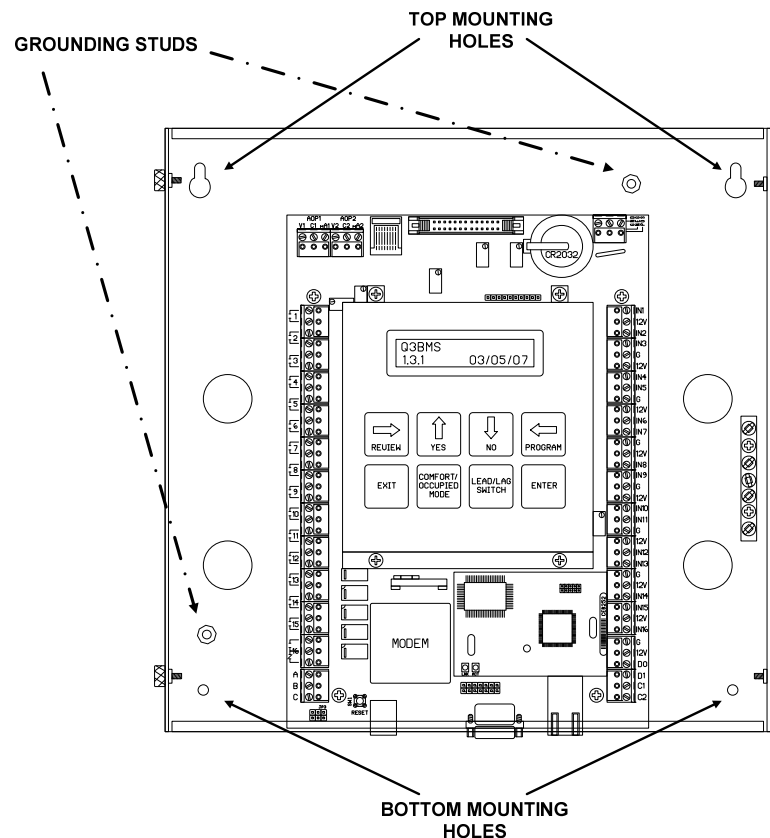

Figure 1: Location of Mounting Holes and Grounding Studs
Step 2: Remove cover from the Q3 and slip the Q3 top mounting holes (Figure 1) onto the top mounting hardware and slide down until it stops. Install the bottom mounting hardware in the bottom mounting holes.
Step 1: Using terminal lug, run 12 AWG (or larger) ground wire from Q3 ground stud (Figure 1) to building ground and connect using appropriate hardware. Select most convenient ground stub, all grounding studs and ground bus are common.